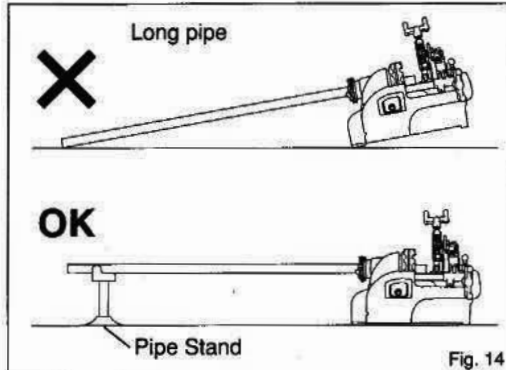

Fig. 14
■ Attaching Long Pipes (Fig. 14)